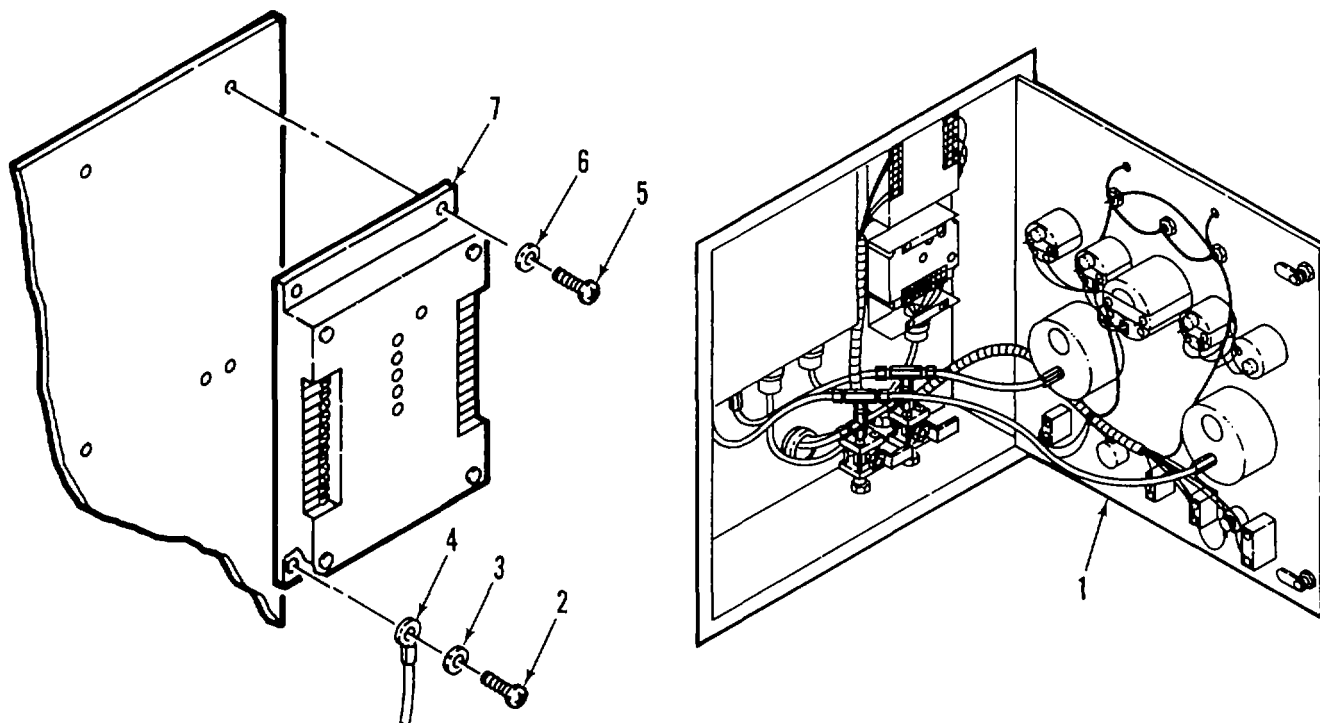

Figure 2-15. Engine Protection System Module
a. **REMOVE.** (Figure 2-15)
- (1) Open control panel door (1).